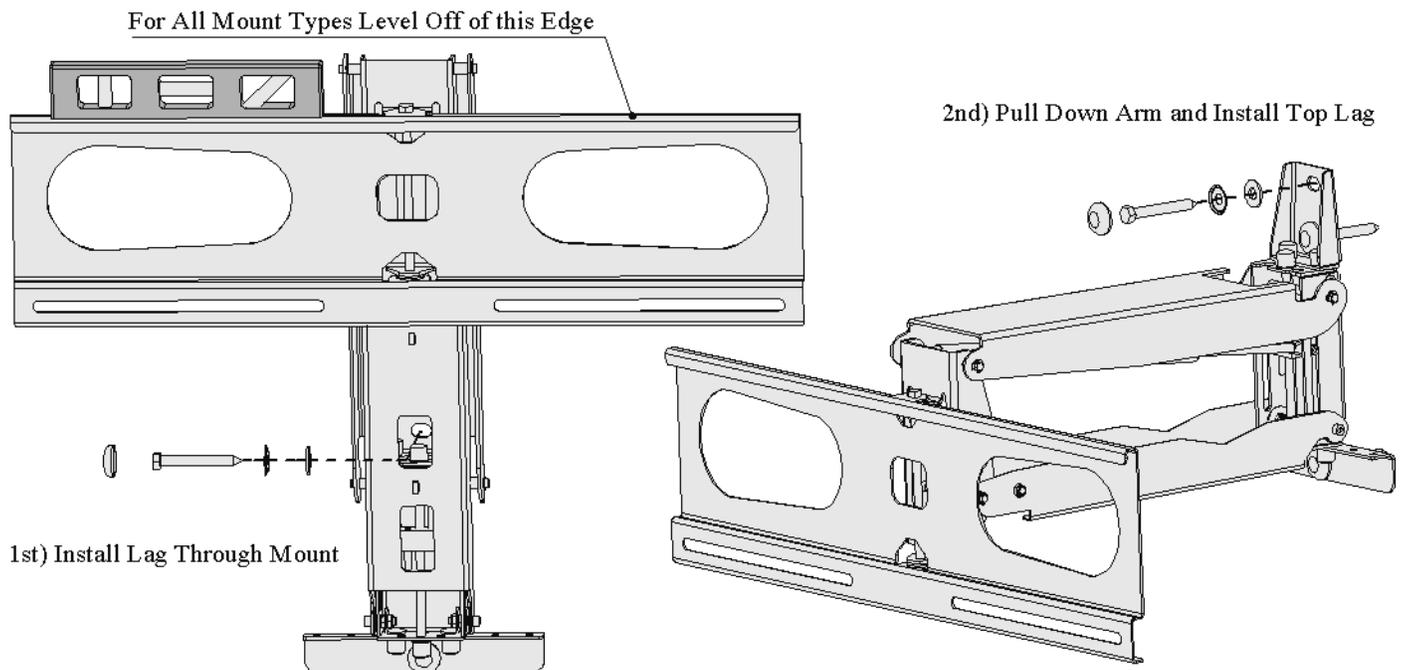
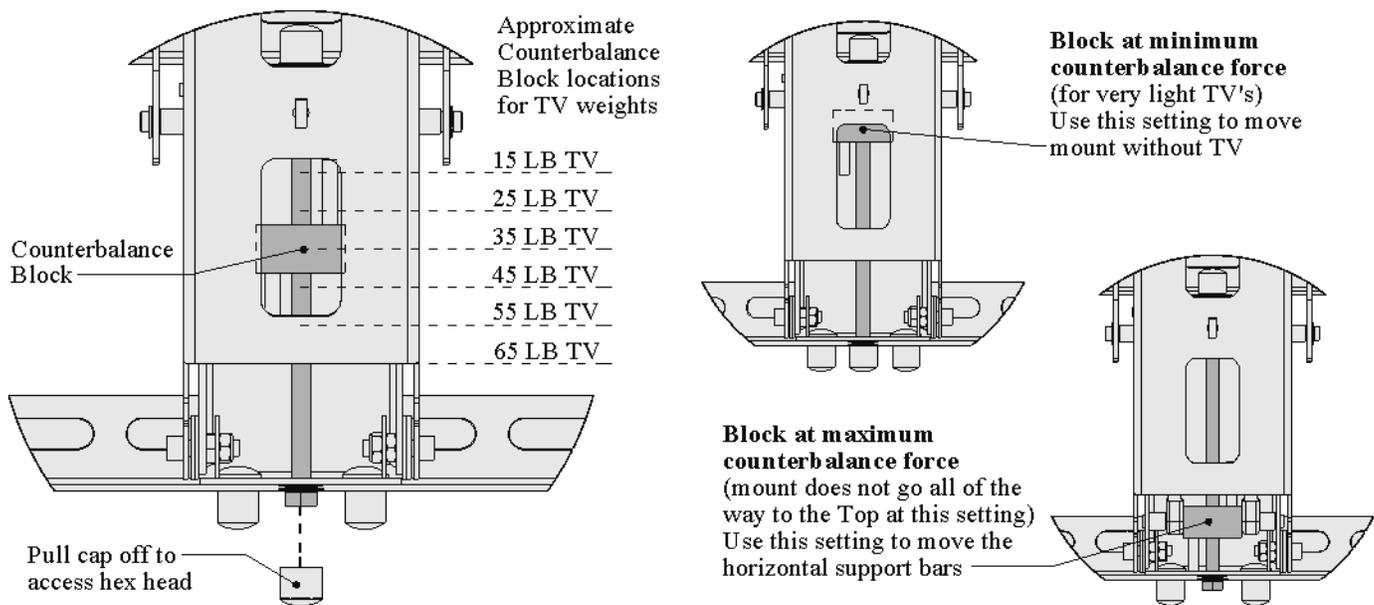

Figure 14, Mounting Single Stud
Figure 19, Counterbalance Settings
7. Level the mount as shown in Figure 14
5. Use a 9/16in wrench to install the lag screw through the mount as shown in Figure 14.
8. Move the Counterbalance to the Minimum Counterbalance Force as shown in Figure 19 to be able to pull down the mount to access the top mounting slot as shown in Figure 14.
The counterbalance will need to be adjusted for the mount to work properly with your television. To adjust the counterbalance, turn the bottom of the counterbalance screw with a 1/2 inch box or ratcheting wrench, see Figure 19. This moves the Counterbalance Block up and down. The approximate counterbalance block settings for various television weights are shown in Figure 19. In Figure 19 the counterbalance is approximately set for a 35 Pound Television.